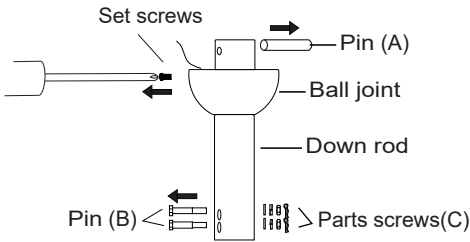

Fig.3
1. Remove the ball joint and pin(A B) by loosening the set screws and parts screws(C) from the down rod.(Fig.3)